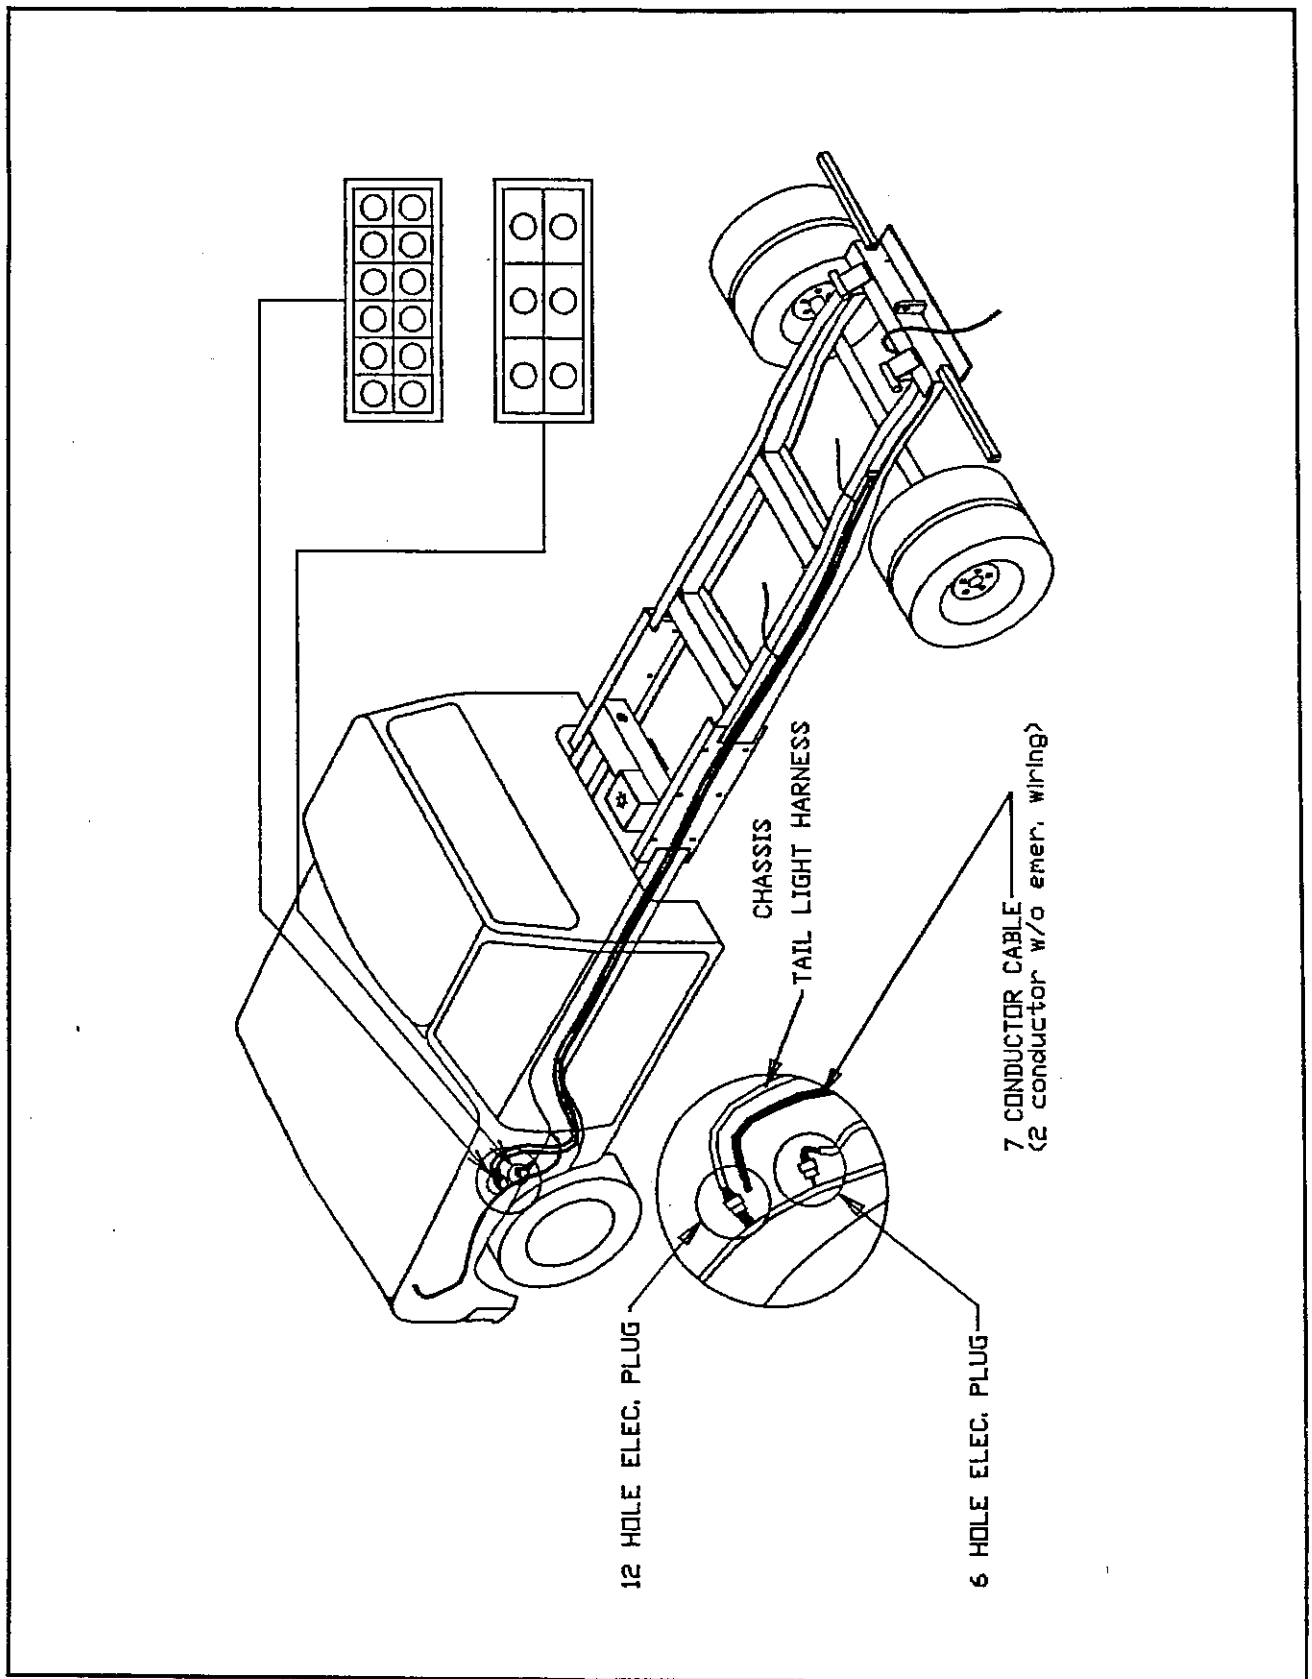

FIG. 4-42 CHASSIS HARNESS ROUTING
**4-11.33** Route the 35-foot 7-conductor cable as follows: Enter the left hand frame channel between the left upper shock absorber mount for the rear axle on the left hand frame. Pull cable forward routing along with the tail light wiring harness to the area between brake master cylinder and left hand fender. (See FIG. 4-42)